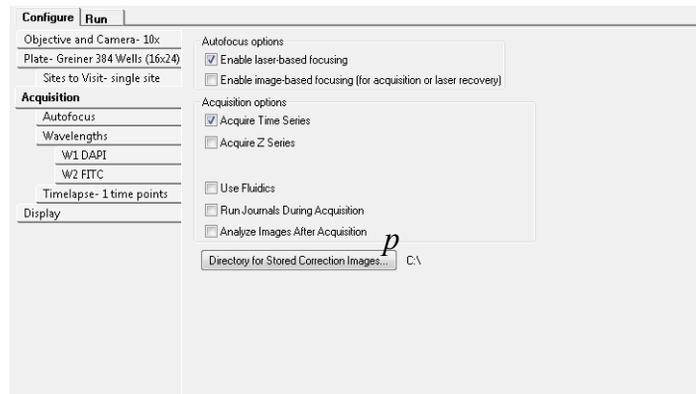

Figure 1-12: Acquire Time Series
2. In the **Plate Acquisition Setup** dialog, in the **Configure** tab, open the Acquisition tab. See Figure 1-12.